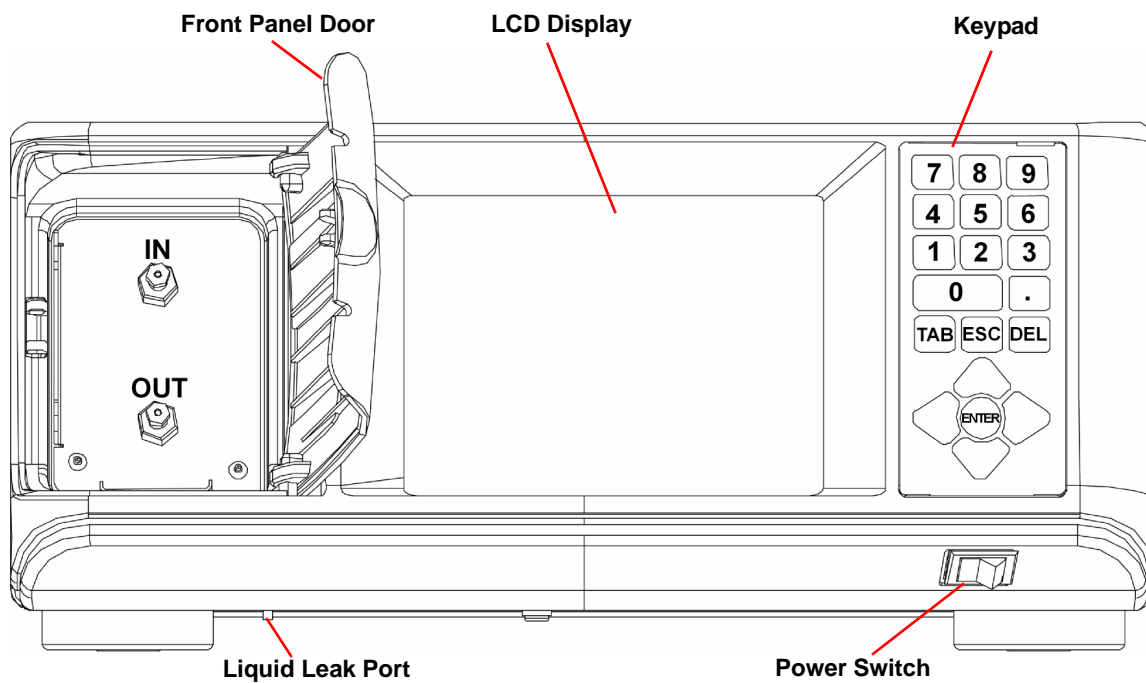

Figure 2-1: Front panel
The front panel, see Figure 2-1, provides fluid connections for the Optilab T-rEX and all of the necessary functions and displays for operating the instrument and monitoring data.
4. **Make fluid connections.** Standard HPLC fittings: 1/16 in. OD tubing, 10-32 threads. The Optilab T-rEX should be connected *last* in line if other detectors are to be connected in series. (See also “Fluid Connections” on page 4-7.) The IN and OUT ports are located behind a door on the front panel (see Figure 2-1).
5. **Flush the Optilab T-rEX in purge mode.** Use 20 mL of co-miscible solvents stepwise as necessary to prepare the cell for data collection. (See also “Purging the Optilab T-rEX” on page 4-9.) Tab to the **Purge On/Off** button using the front panel arrow keys (see Figure 2-1).